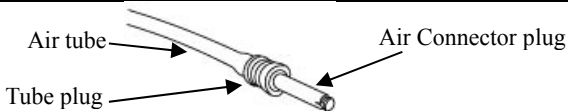

Figure 3.8C Connection among air tube, tube plug and Air connector plug
- C). Take the tube plug from cuff connector, and put the air connector plug into the front of tube plug, as shown in figure 3.8C.